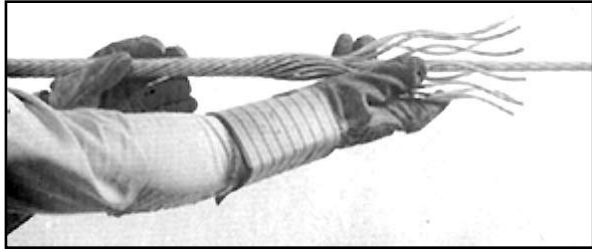

FIGURE 4
- 2.04** To complete application, use both hands to wrap reinforcing rods simultaneously into position. Do first one end bundle, then the other end. (Figure 4)